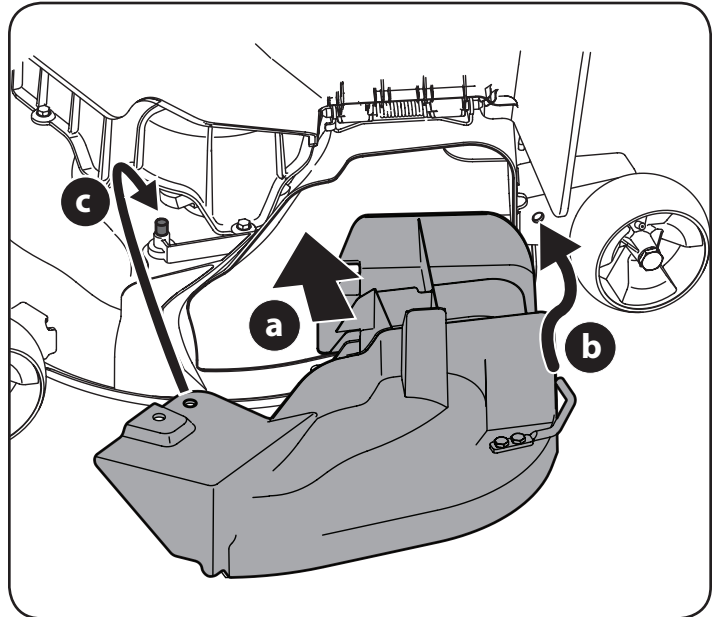

Figure 5
3. To install the mulch plug, pivot the discharge chute upward and refer to Figure 5: